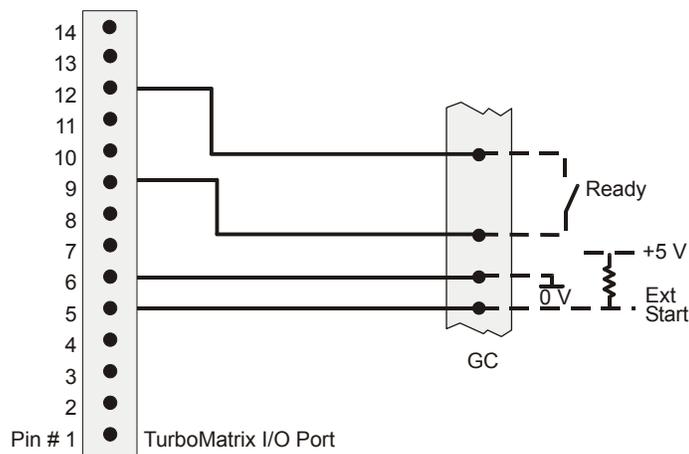

Figure 4 Connect the ATD/TD to Another GC Using the Ready/Start Cable
The contacts remain closed for 6 seconds. The Start signal is normally used to start a GC run, by connecting it to the GC Start terminals. See *Figure 4*.
1. Connect the generic Ready/Start Cable Assembly (P/N N101-1206) to the Input/Output socket on the ATD/TD and make the appropriate connections on the GC, as shown in *Figure 4*.